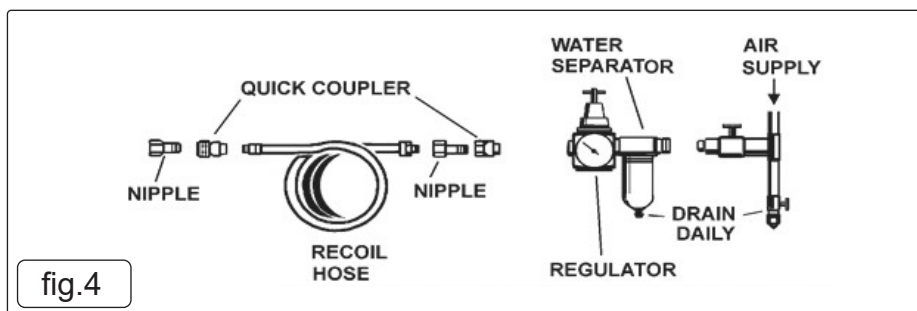

fig.4
5.10.1. Connect a compressed air supply hose (fig 4) to the Manual/Pneumatic Pump Assembly (#64).